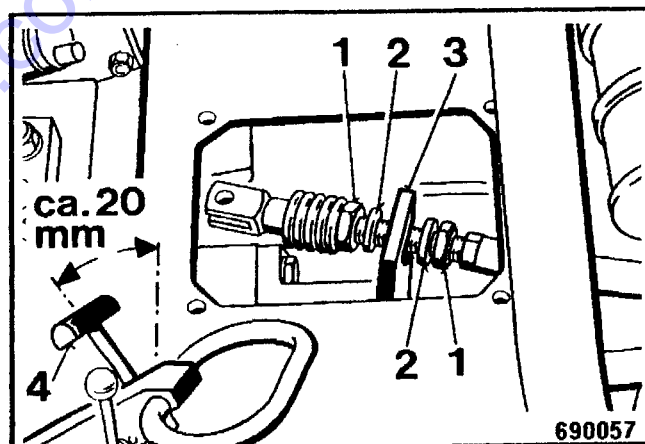

Fig. 4
- Back the adjustment nuts 1 (Fig. 4) off.